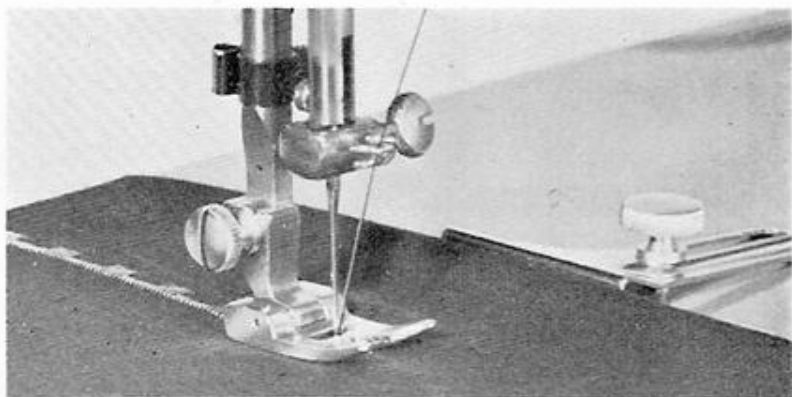

Fig. 30
- (a) Figure 30 indicates the way the cloth guide is attached.